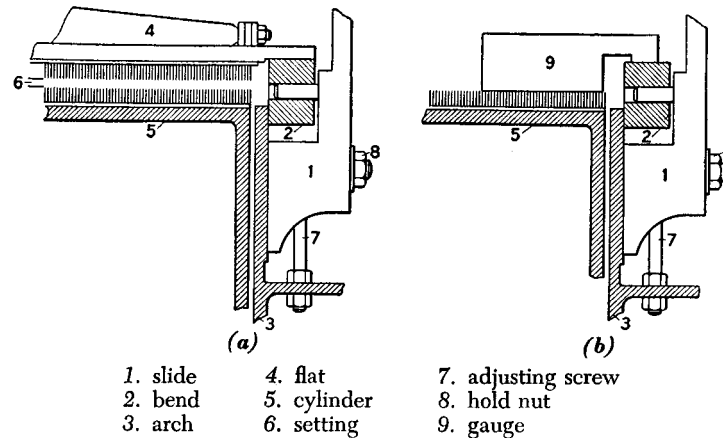

FIG. 8. FLEXIBLE BEND
34. The arches, which support the flexible bends, need no adjustments. However, the bends themselves need adjustment from time to time. As shown in Fig. 8 (*a*), an adjustable slide holds the bend to the arch. There are five such slides on each side of the card. As you can see in the illustration, the flats slide on the bends. Since the bends hold the flats at a given height, the positions of the bends determine the distance between the card clothing on the flats and the card clothing on the cylinder. This distance is the flat-cylinder setting.